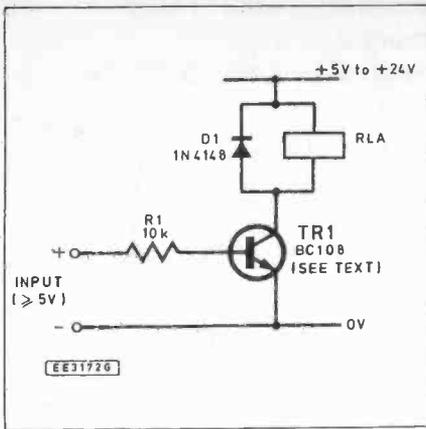
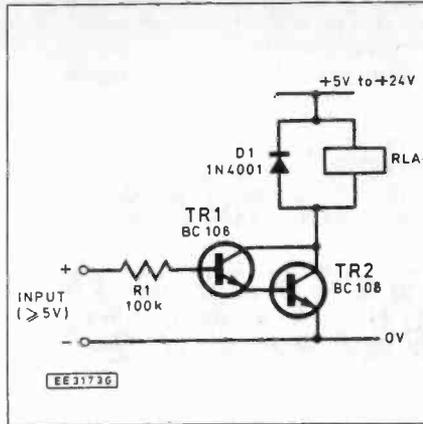
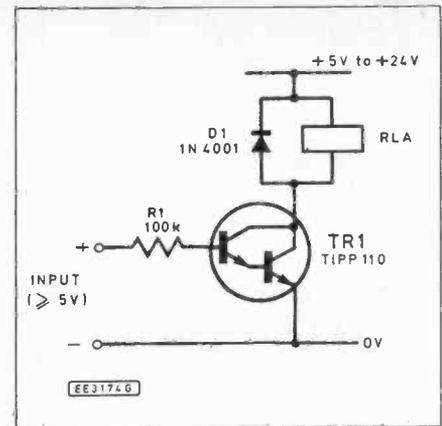

Fig. 8.1. A simple relay driver circuit.
Fig. 8.2. Relay driver circuit based on a discrete Darlington arrangement.
Fig. 8.3. Relay driver based on a plastic Darlington transistor.
In many applications, a relay will require some form of interface to the circuit to which it is connected. Often such an interface need consist of nothing more than a single transistor, as shown in Fig. 8.1.
Almost any *npn* transistor with a current gain of 50, or more, can be used in the circuit of Fig. 8.1 however it is important to ensure that it is operated within its maximum collector current ( $I_{C(MAX)}$ ) rating. The following devices are recommended:
The circuit of Fig. 8.1 requires an input current of about 0.5mA when operated from a 5V source. In some applications it may be desirable to increase the sensitivity of the circuit in which case a Darlington driver stage can be used (see Fig. 8.2). The silicon diode, D1, is fitted in order to provide a current path which will absorb the back e.m.f. generated when the magnetic flux in the relay suddenly collapses when the transistor ceases to conduct.
A Darlington driver based on two (discrete) *npn* devices and which requires a current of only a mere 40µA at 5V in order to operate the relay is shown in Fig. 8.2. Fig. 8.3 shows an equivalent arrangement based on a plastic *npn* Darlington transistor. This circuit can be used with relays having coil resistances as low as about 200 ohm and will also operate reliably with an input current of as little as 40µA.
**Question 1:** If the circuit of Fig. 8.1 is to be operated from a CMOS logic circuit which operates from a +12V supply rail and can produce no more than about 500µA of drive current at 8V, specify the required value for R1.